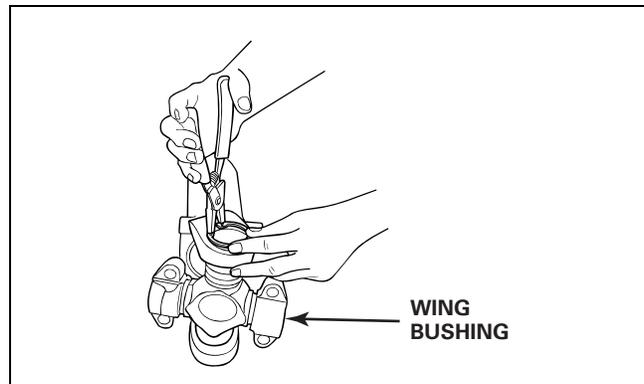

Figure 4.36
6. Use snap ring pliers to install the snap ring into the snap ring groove. Figure 4.36. Fully seat the snap ring.